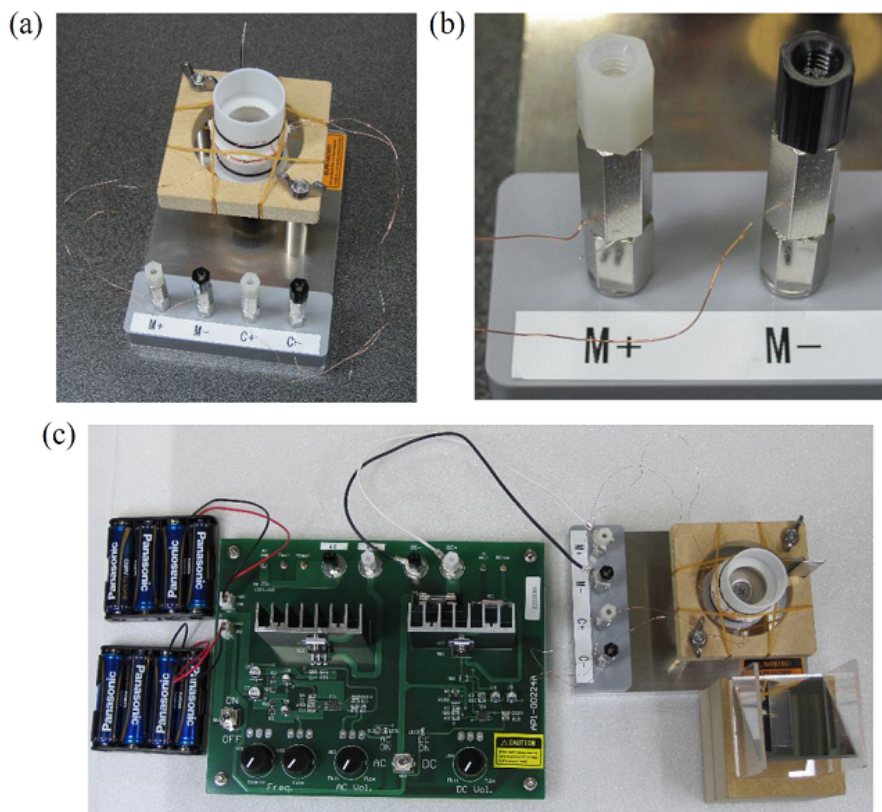

Figure 5: (a), (b) Binding posts wired, (c) The whole setup wired including PS and batteries.
2. Loosen the screw on the binding posts M+ and M- to allow for gaps. Use the lower gaps for the wiring (Fig. 5(a), (b)). The polarity check will follow soon.
4. Place the batteries in the battery holders and secure connections with PS (CN1, CN2) (Fig. 5(c)).